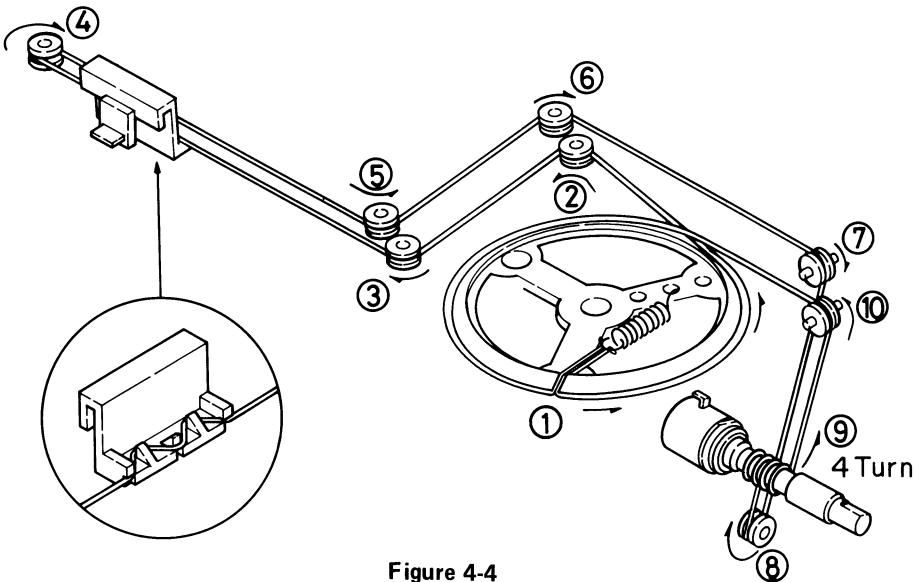

Figure 4-4
1. Turn the drum fully counterclockwise, and set the cord in the numerical order from 1 to 10 as shown in Fig. 4-4.